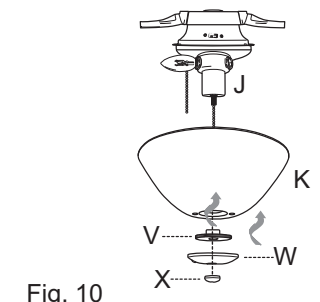

Fig. 10
10. Align hole in middle of glass shade (K) with threaded rod on light kit fitter (J), allowing other pull chain to come through hole on the side, and push up gently on glass shade (K) until threaded rod comes through hole. Screw shade screw (V) onto threaded rod until raised part in center of shade screw (V) fits snugly into hole in glass shade (K). Align pull chains with corresponding holes in shade plate (W), and then push up on shade plate (W) allowing threaded rod to come through hole in middle of shade plate (W). Thread center pull chain through hole in finial (X). Tighten finial (X) to secure glass shade (K) to light kit fitter (J). [Fig. 10]